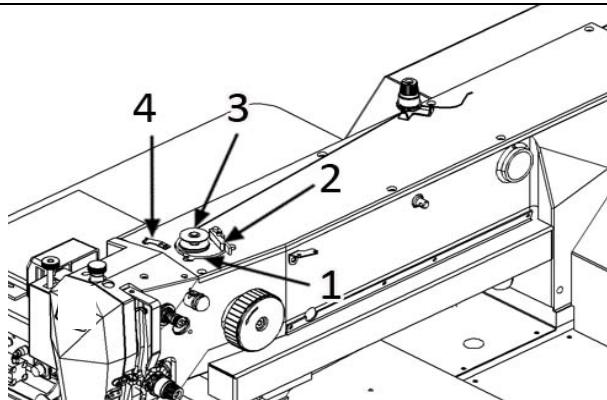

Fig. 13
- A) Insert the bobbin (3) on bobbin winder shaft (1).
B) Press the winder lever (2) to activate the operation and start the machine.
C) When the bobbin is fully wound with thread, the winder lever releases the bobbin. Cut the thread by knife (4), see fig. 13